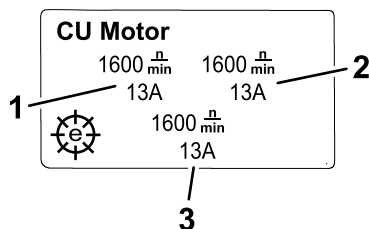

Figure 21
- **CU motor information screen (Figure 21):** shows the speed and current of each reel motor.